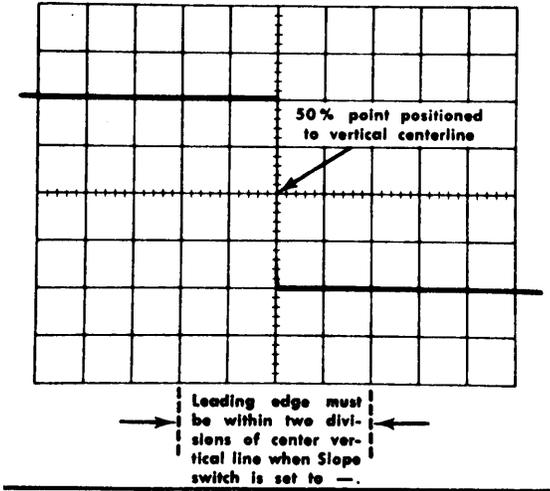

Fig. 5-18. Typical CRT display when checking calibrator duty cycle.
g. CHECK-50% point on the rising edge is now displayed not more than two divisions from the center vertical line (indicates a duty factor of 48% to 52%; see Fig. 5-18).